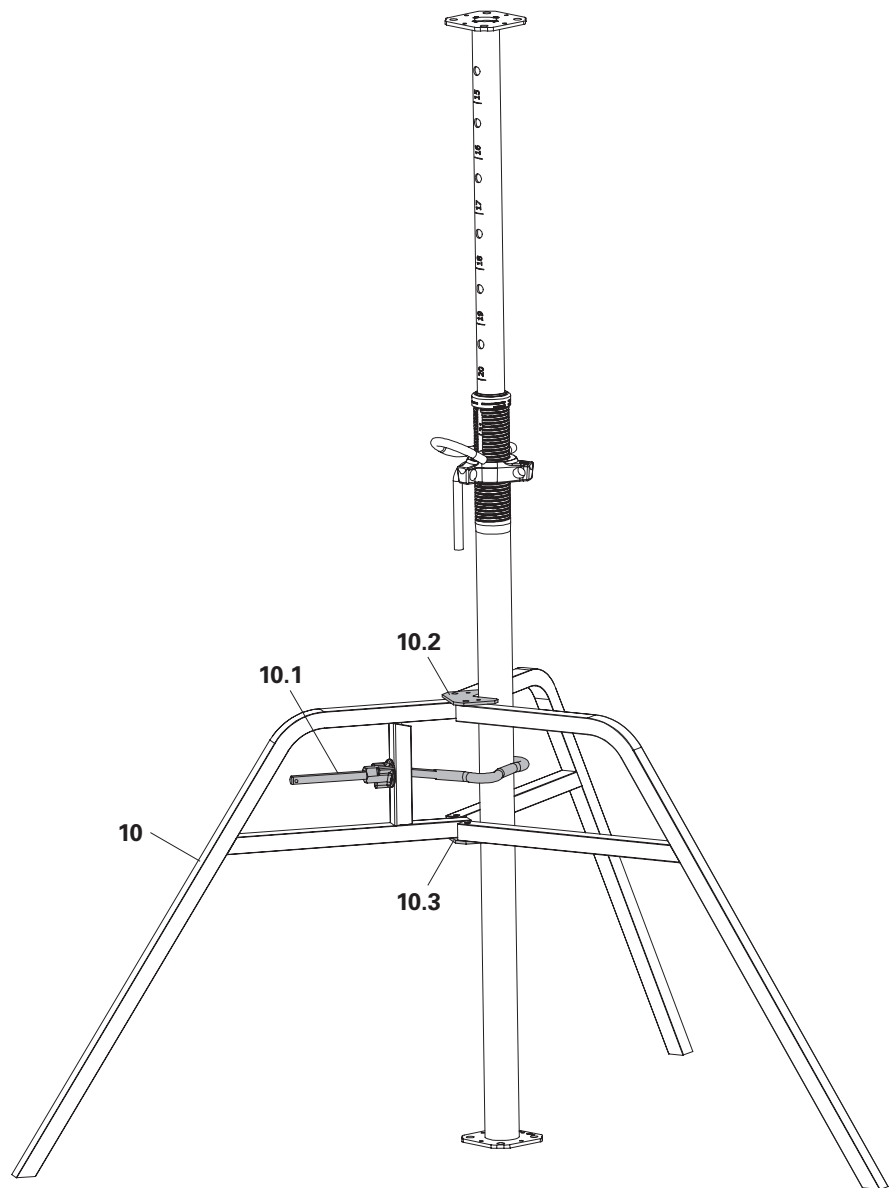

Fig. A1.04
1. Attach a pre-assembled Slab Prop to the universal tripod Ø57 – 120 mm (**10**). (Fig. A1.04)